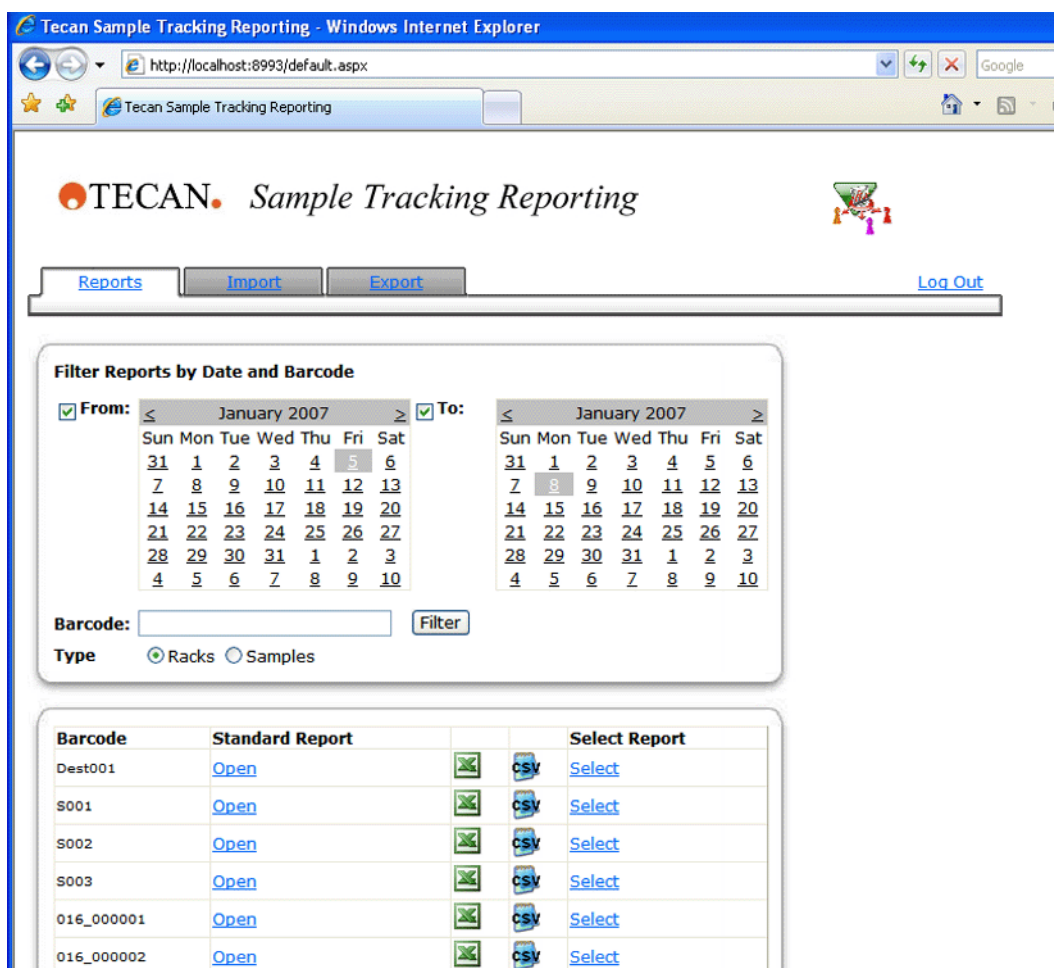

Fig. 7-4 Tab Reports - filtered results with all racks
- 2 Select a report from listing Fig. 7-4, 7-8.